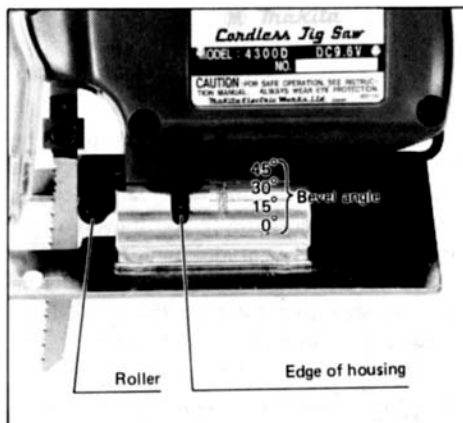

Fig. 10
2. Loosen the bolt on the back of the base with the hex wrench. Tilt the base to the desired angle. The edge of the housing indicates the bevel angle. (Fig. 10). Then check for contact between the back edge of the blade and the roller. Now tighten the bolt securely on the back of the base.